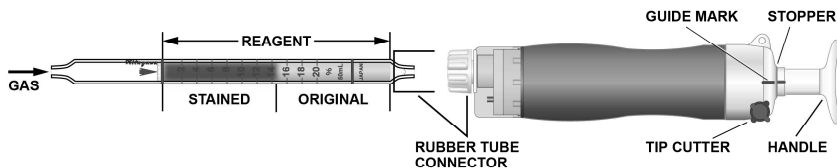

Fig.1
- ② Insert the detector tube into the aspirating pump securely as shown in Fig.1. (Arrow mark shall point to the pump.)
- ③ Align the guide marks on the shaft and stopper of the aspirating pump.
- ④ Pull the pump handle at a 1/2 stroke until it locks and wait for 1 minute or until the completion of sampling is confirmed with the flow indicator of the pump. (See descriptions about the flow indicator in the instruction manual of the pump)
- ⑤ On completion of sampling, read the scale at the maximum point of the stained layer.